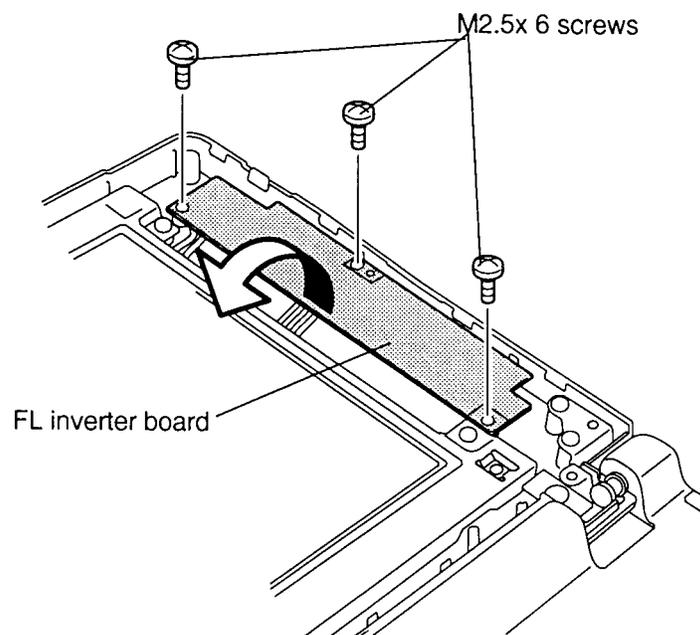

Figure 4-34 Removing the FL inverter board
To remove the T2400CT's FL inverter board, follow the steps below and refer to figures 4-34 and 4-35.
3. Remove the **three M2.5x6 screws** securing the **FL inverter board** (figure 4-34).
To install the T2400CT's FL inverter board, follow the steps below and refer to figures 4-34 and 4-35.
3. Secure the **FL inverter board** with the **three M2.5x6 screws** (figure 4-34).